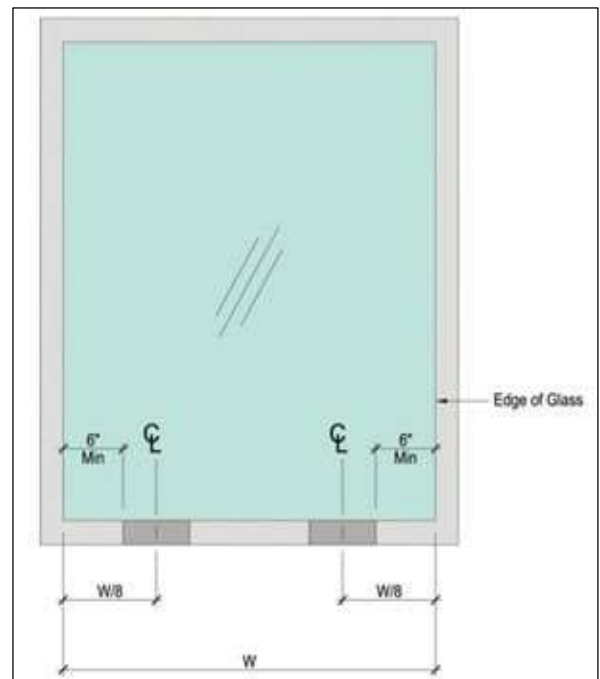

Figure 4 - Alternate Support Block Location
- If necessary - one-eighth ($1/8$) points of the sill supporting frame (glass gravity base width), but not located less than 6 inches from vertical edge of glass to start of block as shown in Figure 4.